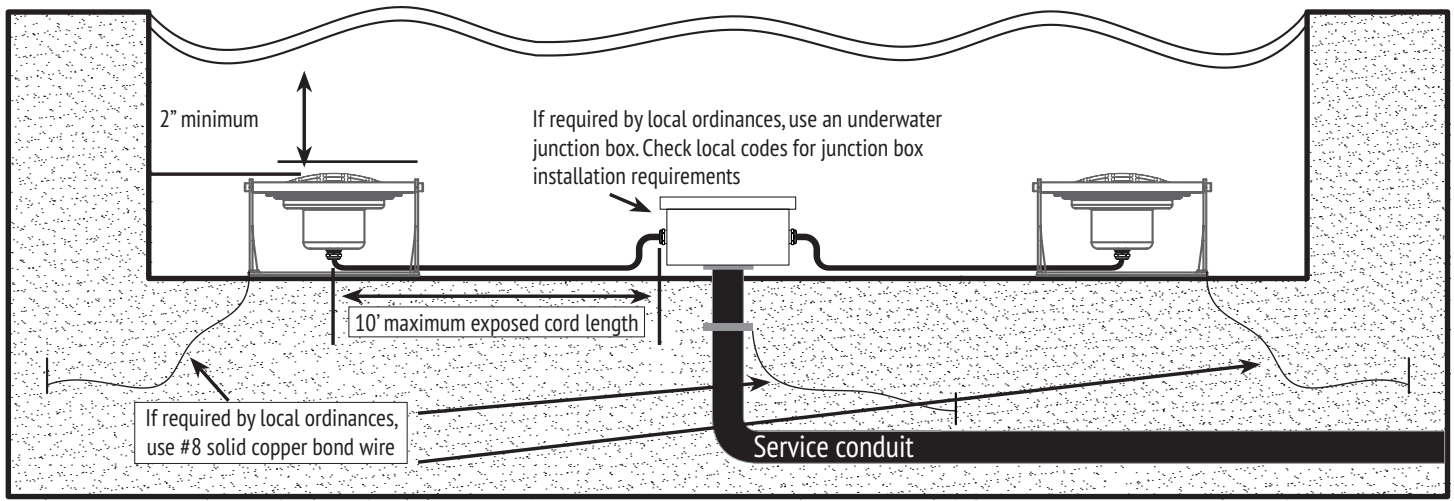

Figure 1
3. Check Local Codes for Junction Box installation requirements. Ensure that the length of exposed cord in the fountain is no more than 10 feet (3 m.), see Figure 1 on page 2.